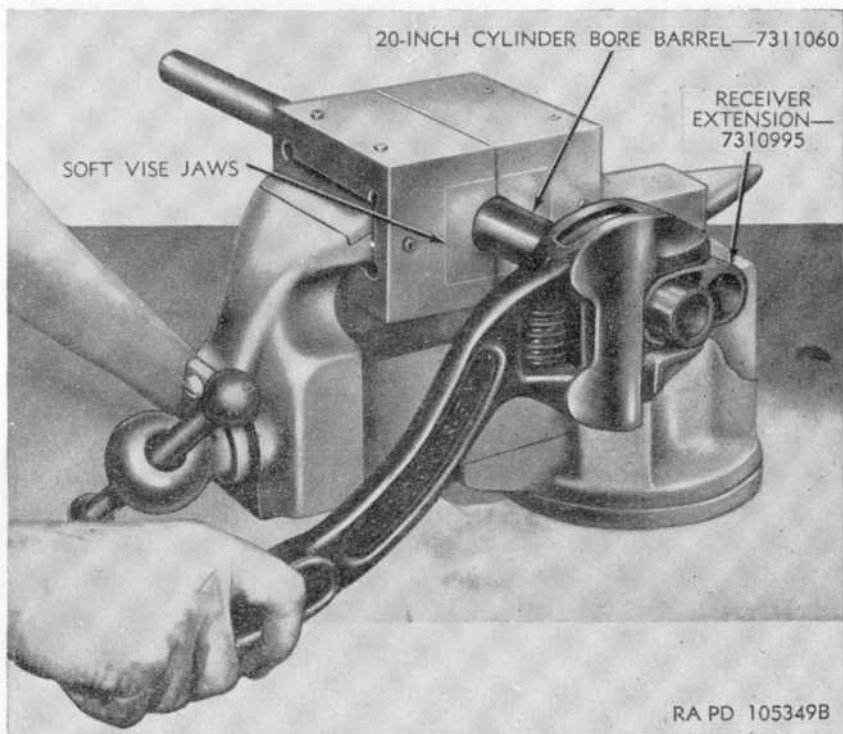

Figure 23. Removing receiver extension from barrel.
- (6) Hold barrel between suitable vise jaws and unscrew the receiver extension with a large adjustable wrench, as shown in figure 23. If the extension is stuck, it may be shocked loose
- (2) Place the 20-inch cylinder-bored barrel in a soft-jawed vise and screw the receiver extension on the barrel. Using a wrench, tighten the receiver extension, as shown in figure 23, until the draw marks on the lower left side of barrel and extension are properly alined.